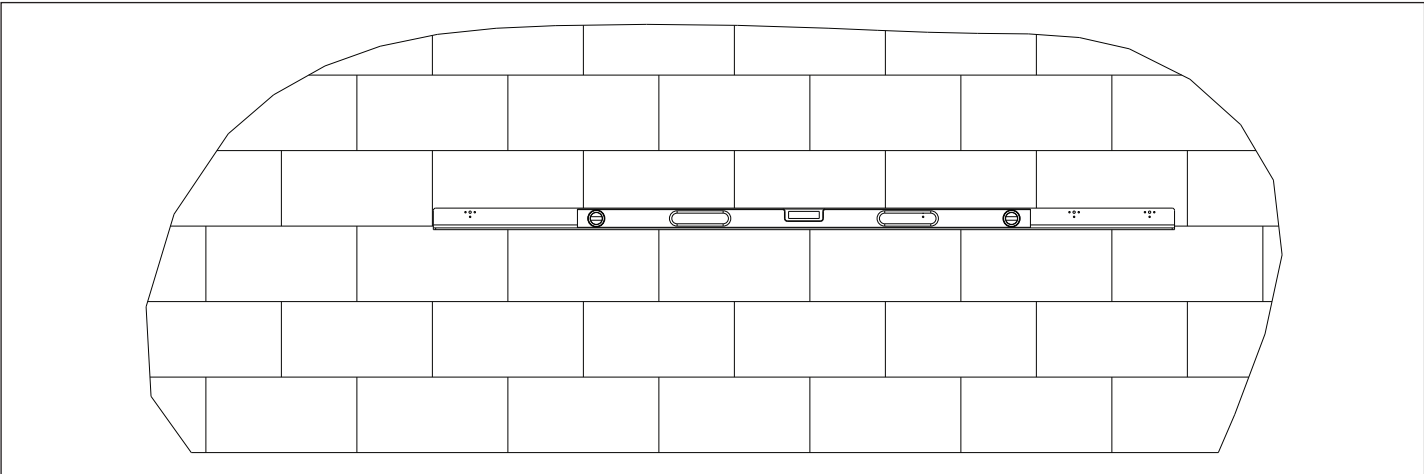

Figure 1: Install First Horizontal Wall Angle
2. Install the first horizontal wall angle while referring to **Figure 1**: